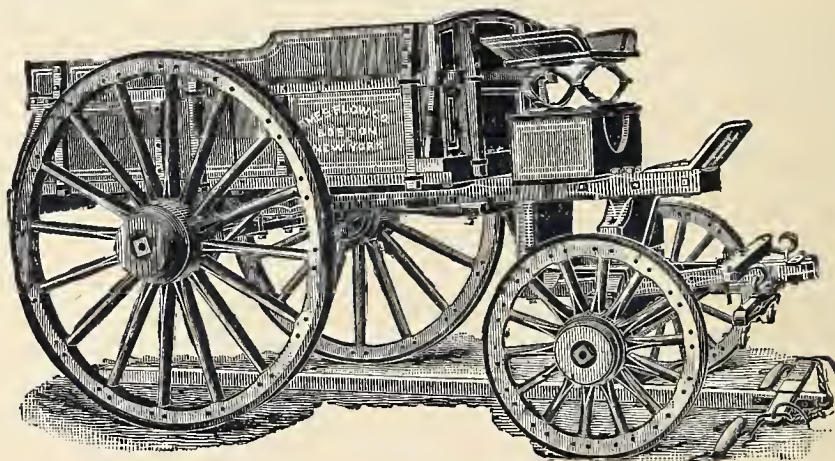

Fig. B 568.—Four-Wheel Boston Contractors' Cart.
**The Four-Wheel Boston Contractors' Cart.**—This is shown at *Fig. B 568*. It is built on the same principle, and for same purposes, as our TWO-WHEEL BOSTON CONTRACTORS' CART already described. It is a dump-cart, and the forward wheels